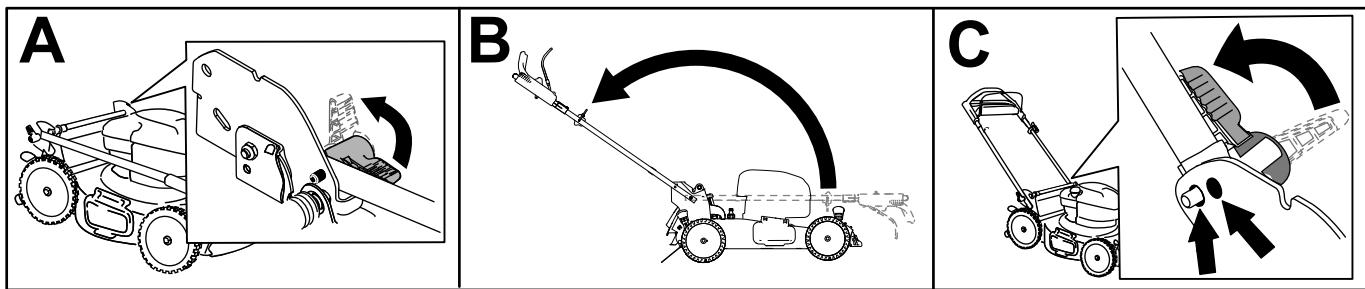

Figure 4
1. Unlock the handle (A of Figure 4).
2. Move the handle rearward to the operating position (B of Figure 4).
4. Engage the handle lock until the pin clicks in place to lock the handle into the operating position (C of Figure 4).